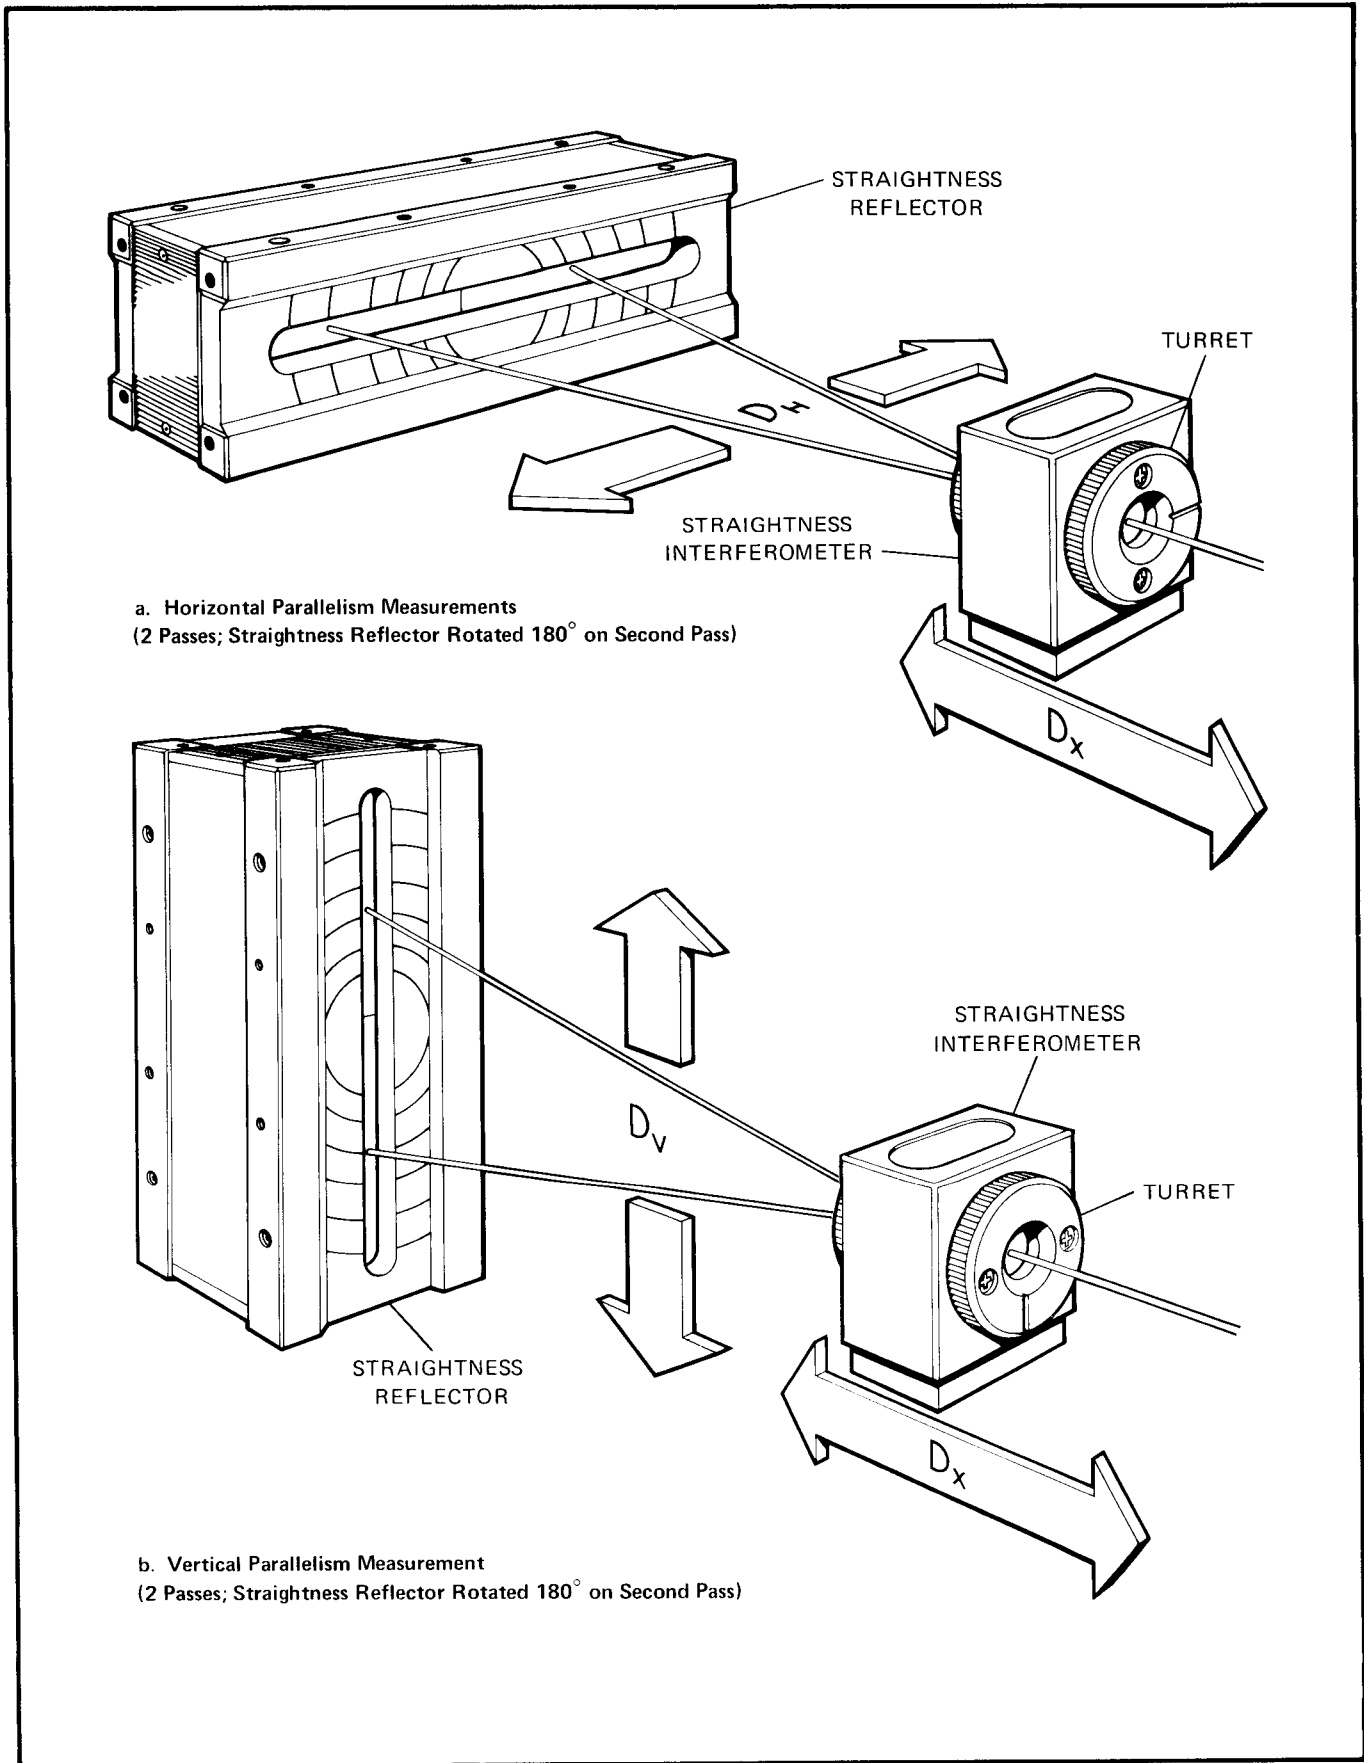

Figure 7. Parallelism Measurements
After aligning the optical system, verify that the BEAM ALIGNMENT meter on the 5505A Laser Display remains in the green region throughout the expected toolpost travel, (DX) as shown in Figure 7. Two passes must be completed to measure toolpost deviations in the horizontal plane ( $D_H$ ) as shown in Figure 7a. Two more passes are then performed to measure deviations in the vertical plane ( $D_V$ ) as shown in Figure 7b. After completing the first pass with the long axis of the Straightness Reflector and the Straightness Interferometer turret in the horizontal plane, the Straightness Reflector (mounted on the spindle) must be rotated 180 degrees, all other Straightness Reflector adjustments remain unchanged. The  $D_H/D_X$  readings for both passes are plotted as shown in Figure 8a. Best-fit straight lines are drawn, and the horizontal parallelism error is obtained by computing half the angle included between the  $D_H/D_X$  lines of each pass (refer to Figure 8a equations).